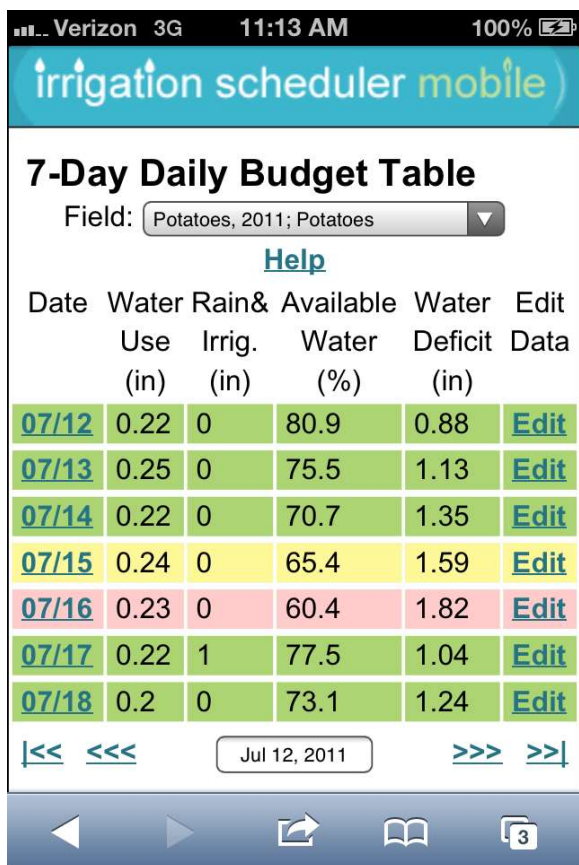

Figure 9. Daily Budget Table screen
The Daily Budget Table screen (Figure 9) shows the most relevant values from a daily soil water budget and allows the user to edit the inputs for each day using the “Edit” link.
**Line Colors:** When the calculated soil water content is well above the MAD point and the plant growth should be at maximum, then the row is highlighted green (Figure 9). When the soil water content gets close to the MAD line (only 15% of the readily available water remaining)